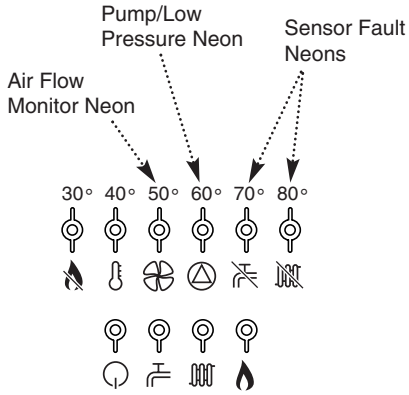

Fig. 13
2. If the neon illuminates (⊕) it indicates that the flue or flue terminal is blocked or obstructed in some way, or that there is an internal fault. If there is no external blockage of the flue terminal that can be easily removed contact your Service Engineer (Fig. 13).
1. The neon (⊕) will illuminate if the circulating pump is faulty or the system pressure drops below the minimum requirement (Fig. 13).
1. When the (⊕) or (⊕) neon is illuminated a fault on the hot water or central heating temperature sensor is indicated (Fig. 13). Contact your Service Engineer.